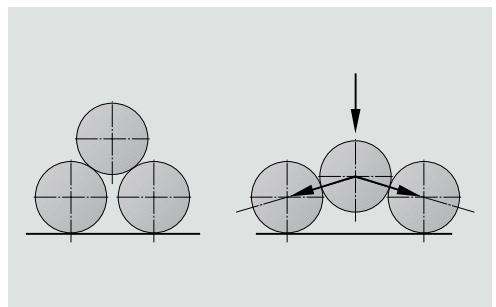

Fig. 6: Rope diameter too small: Gaps between the ropes too large and hence large spreading effect
- In multi-layer winding, faults in the winding quality can be expected in case of deviations from the tolerance range. If the rope is too thin, the gaps between the individual windings get bigger, which can lead to coiling faults up to individual rope strands cutting in, Fig. 5. Rope diameters that are too large lead to the rope moving up prematurely to the next superior layer, leading to serious coiling errors, Fig. 6.